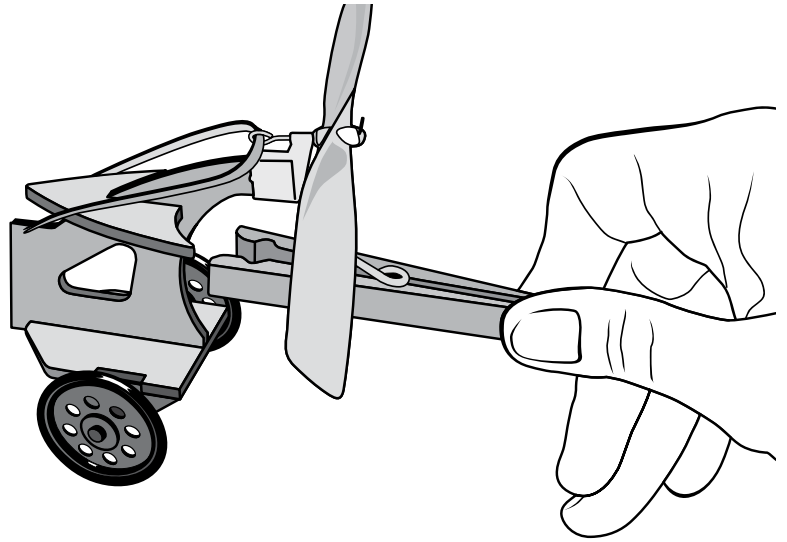

Figure 14
3. Place the clothespin on the back of the racer so it prevents the propeller from moving as you wind the car (Figure 14 on following page).